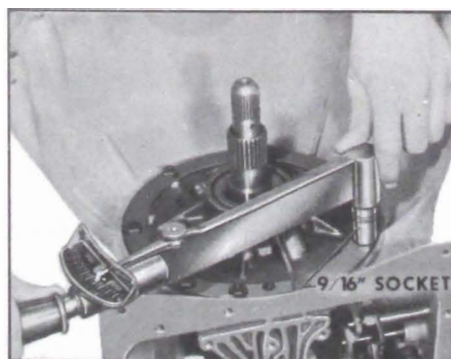

Figure 5-328
6. Torque the eight (8) pump retaining bolts to 16-24 ft. lbs. See Figure 5-328.